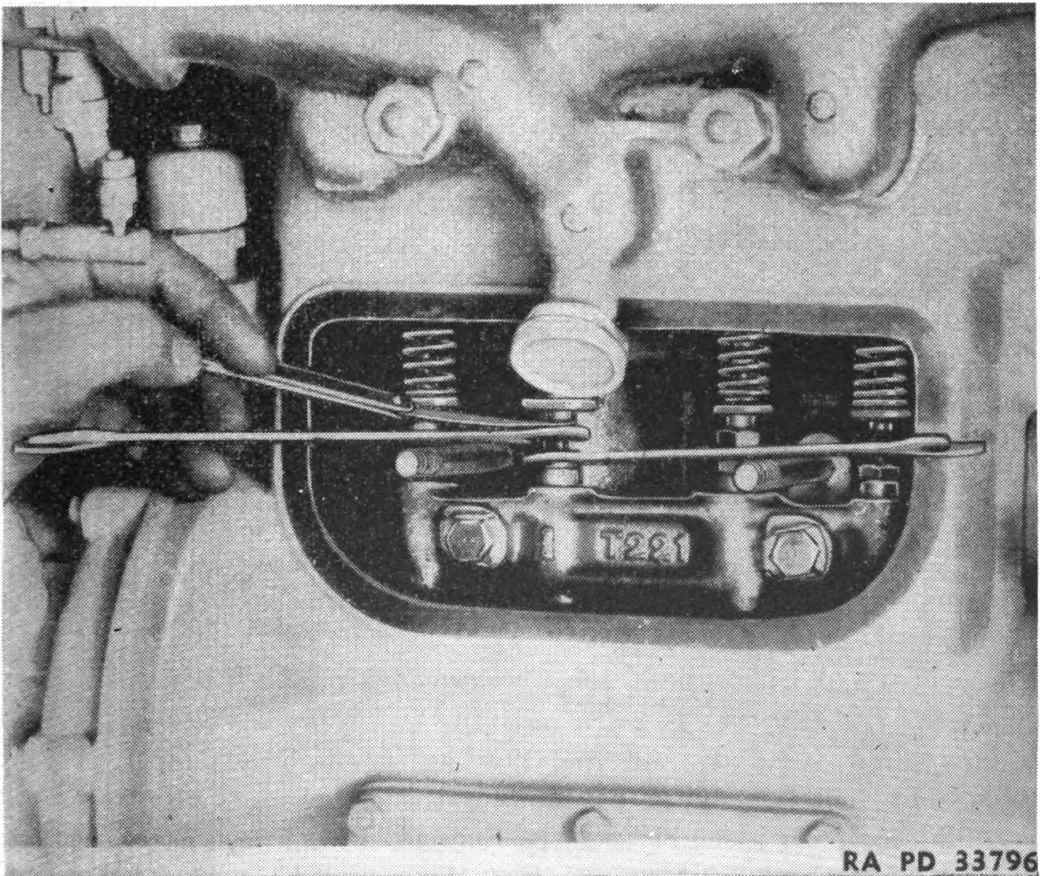

FIGURE 80.—Valve clearance adjustment.
74. Valve clearance adjustment.—The valve clearance adjustment (fig. 80) should be made while the engine is hot. Crank the